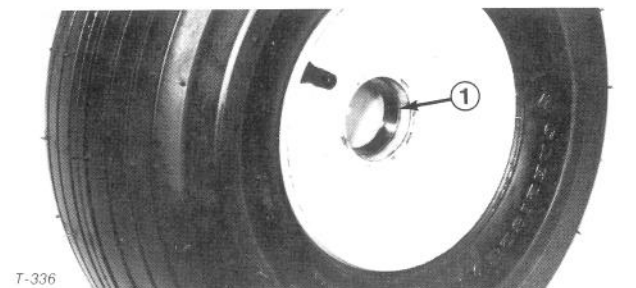

Figure 39
4. Check the bearing cups (Fig. 39) for wear, pitting or other noticeable damage. Replace defective parts. If bearing cups were removed from the wheel hub, press them into the hub until they seat against the shoulder.